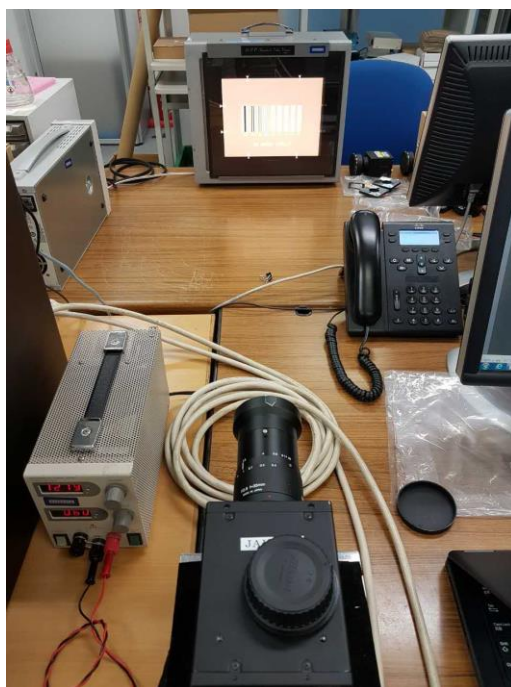

Figure 10 - Overview of setup
- Step 2 Use our setup in Figure 10 to image a set of vertical lines across the width of the sensor (or at least one half of the sensor).